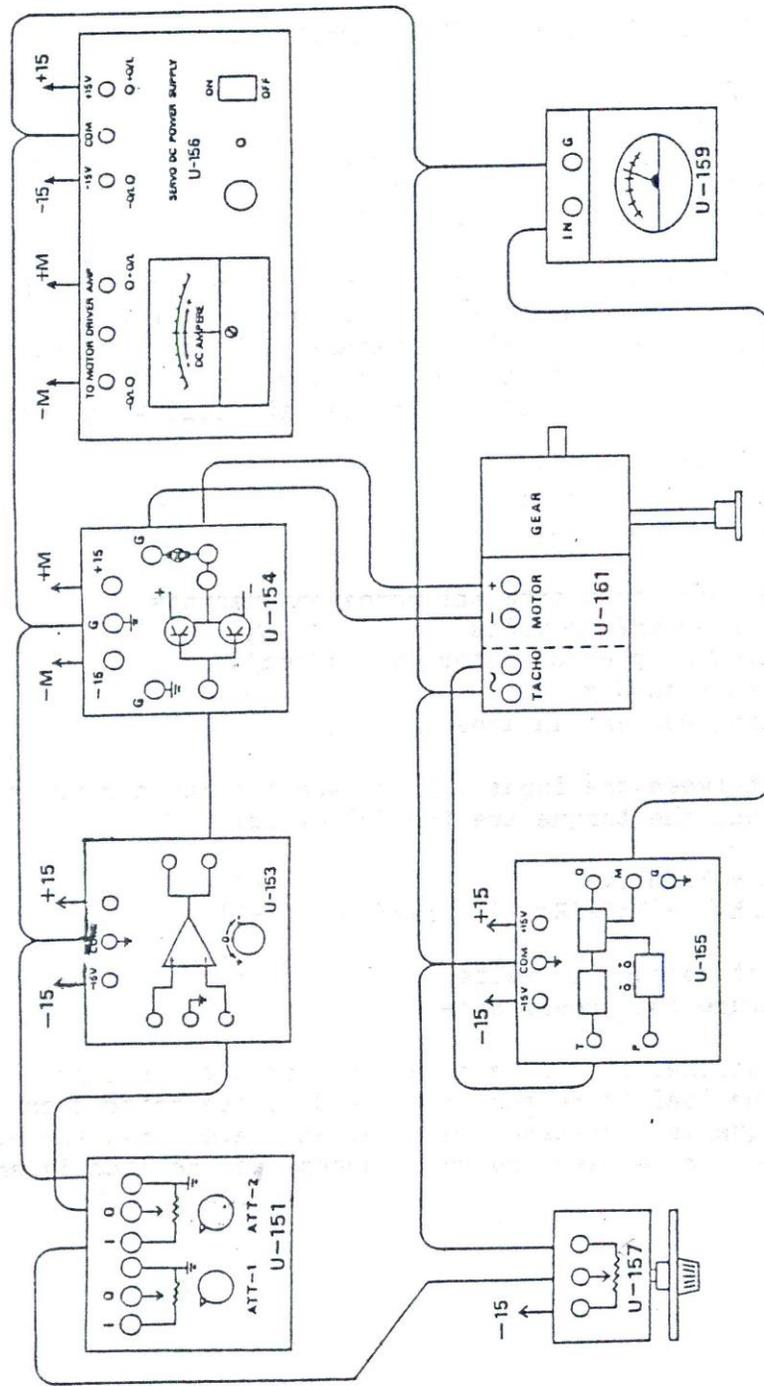

Fig. 2-1 Wiring Diagram of Experiment 2
1. Referring to Fig. 2-1, wire all the modules, as needed.